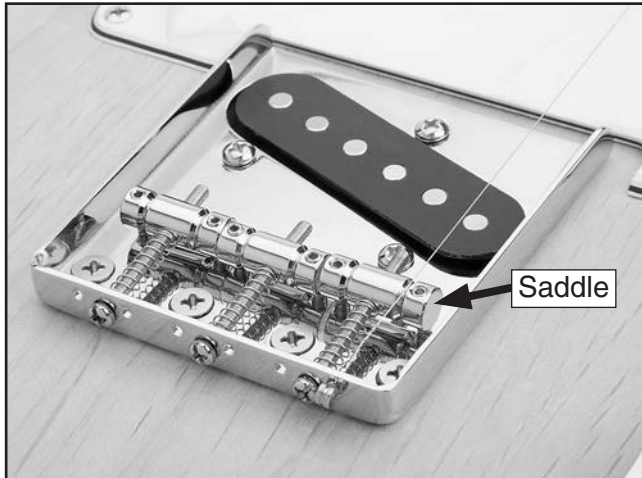

Figure 31. 1st string installed.
3. Guide the string across the saddle (**Figure 31**), over the nut, and through the hole in the corresponding tuning post.
1. Slide the 1st string through the corresponding hole in the bridge (**Figure 31**).